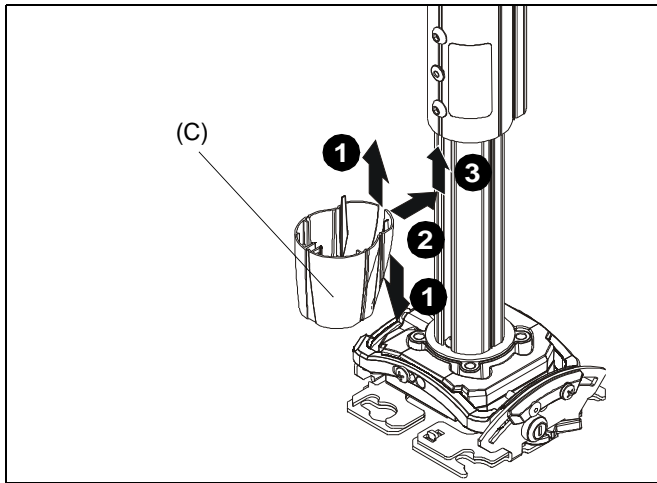

Figure 23
1. Maneuver transitional cover (C) so that it is able to wrap around lower part of extension column. (See Figure 23)
2. Wrap transitional cover (C) around lower part of extension column. (See Figure 23)
3. Press transitional cover (C) into the base of upper part of extension column until the transition cover clicks into position. (See Figure 23)